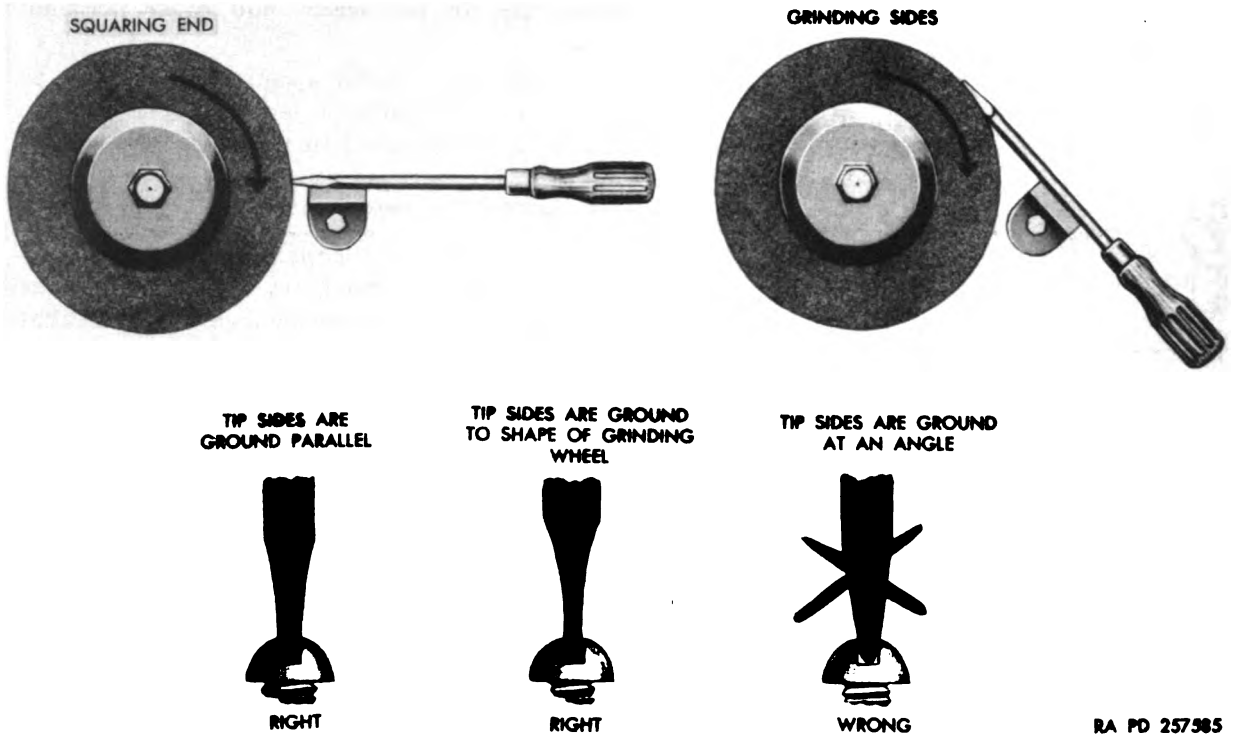

Figure 115. Grinding screwdriver blade tip.
a. Dressing and Shaping. When a screwdriver becomes nicked, or the edges become rounded, or when other damage occurs so that it does not fit a screw slot, it must be reground or filed. The sides must be parallel to keep the tool from lifting from the screw slot (fig. 115) and the tip must be square, at right angles to the sides and to the blade. If using a file, place the screwdriver in a vise. When using a grinder, adjust the rest to hold the screwdriver against the wheel to produce the desired shape, parallel or concave. Do not grind away more material than necessary to remove nicks or square up the end. After squaring tip, grind both sides until the tip is the required thickness. Dip the screwdriver into water frequently during grinding to prevent loss of temper by overheating. If the blade discolors (blue or yellow), the temper has been damaged. Retemper by heating about 1½ inches of blade to a cherry red with a torch. Immediately dip about ¾ inch of the blade in clean cold water. Quickly rub the hardened end with aluminum oxide abrasive to brighten it. Watch the color creep back into the tip from the heated portion of the blade. When color becomes light blue, dip blade into water. The tip is now retempered and ready for use.